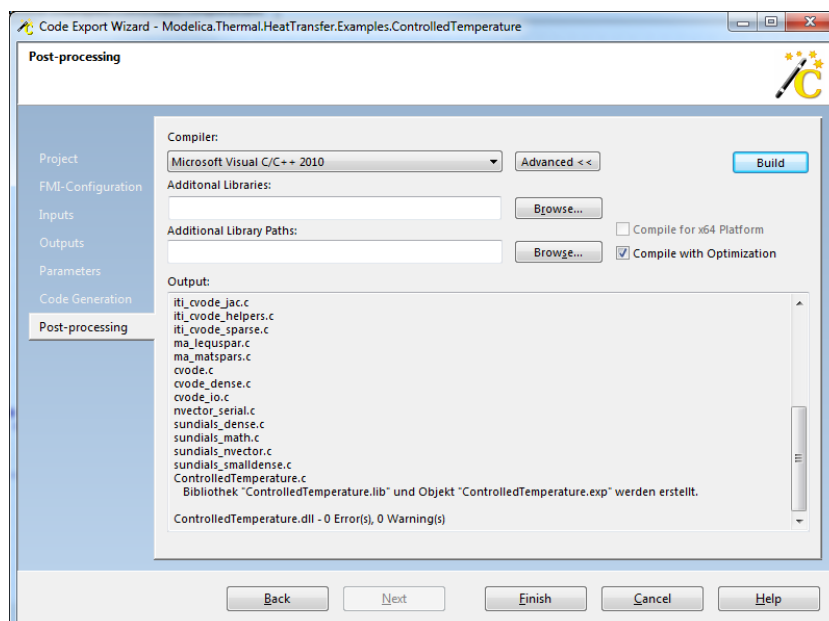

Figure 4: Post-Processing page of Code Export after build process has finished.
14. In the Post-Processing Tab, the actual FMU will be generated. Choose compiler "*Microsoft Visual C/C++ 2010*" and hit "*Built*". The code will be generated and the output window will show the progress. Two build routines will run since the FMU is supposed to be compatible to both win64 and win32 platforms. After the build process has completed, the output according to Figure 4 will show up. Hit finish.